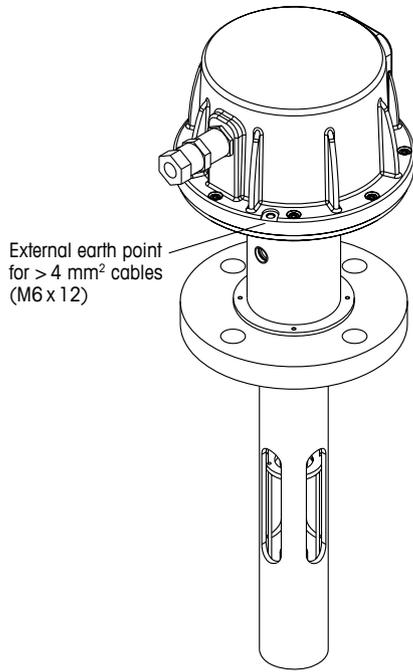

Figure 21 External earth point. Standard probe (SP) process adaptor shown.
- The GPro 500 must be connected to an external protective earthing system via one of the screws for the lid to the sensor head (see Figure 21 on page no 50).